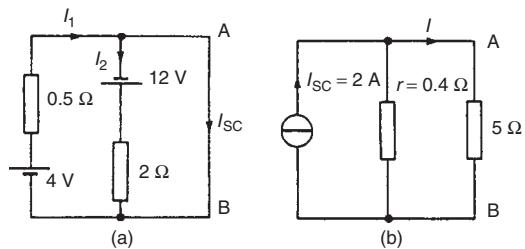

Figure 13.59
- (i) The  $5\Omega$  branch is short-circuited as shown in Fig. 13.59(a)
- (ii) From Fig. 13.59(a),
- (iv) From the Norton equivalent network shown in Fig. 13.59(b) the current in the  $5\Omega$  resistance is given by: